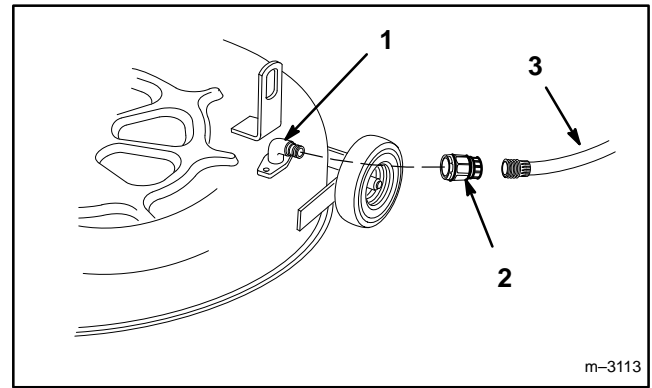

Figure 17
2. Attach hose coupling to the end of the mower washout fitting, turn water on high (Fig. 17).